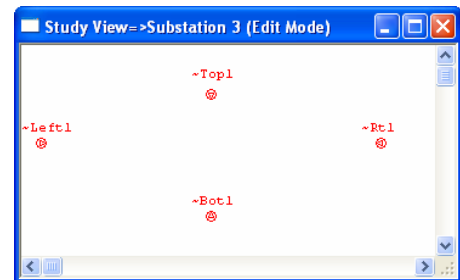

Fig. 8
8. Double-click on “Substation 3” composite network. The “Study View=>Substation 3 (Edit Mode)” window (one-line diagram presentation) will open. Note that you will see 4 internal pins inside the window. These pins are the counterpart of the external pins that you see on the composite network symbol. See Fig. 8